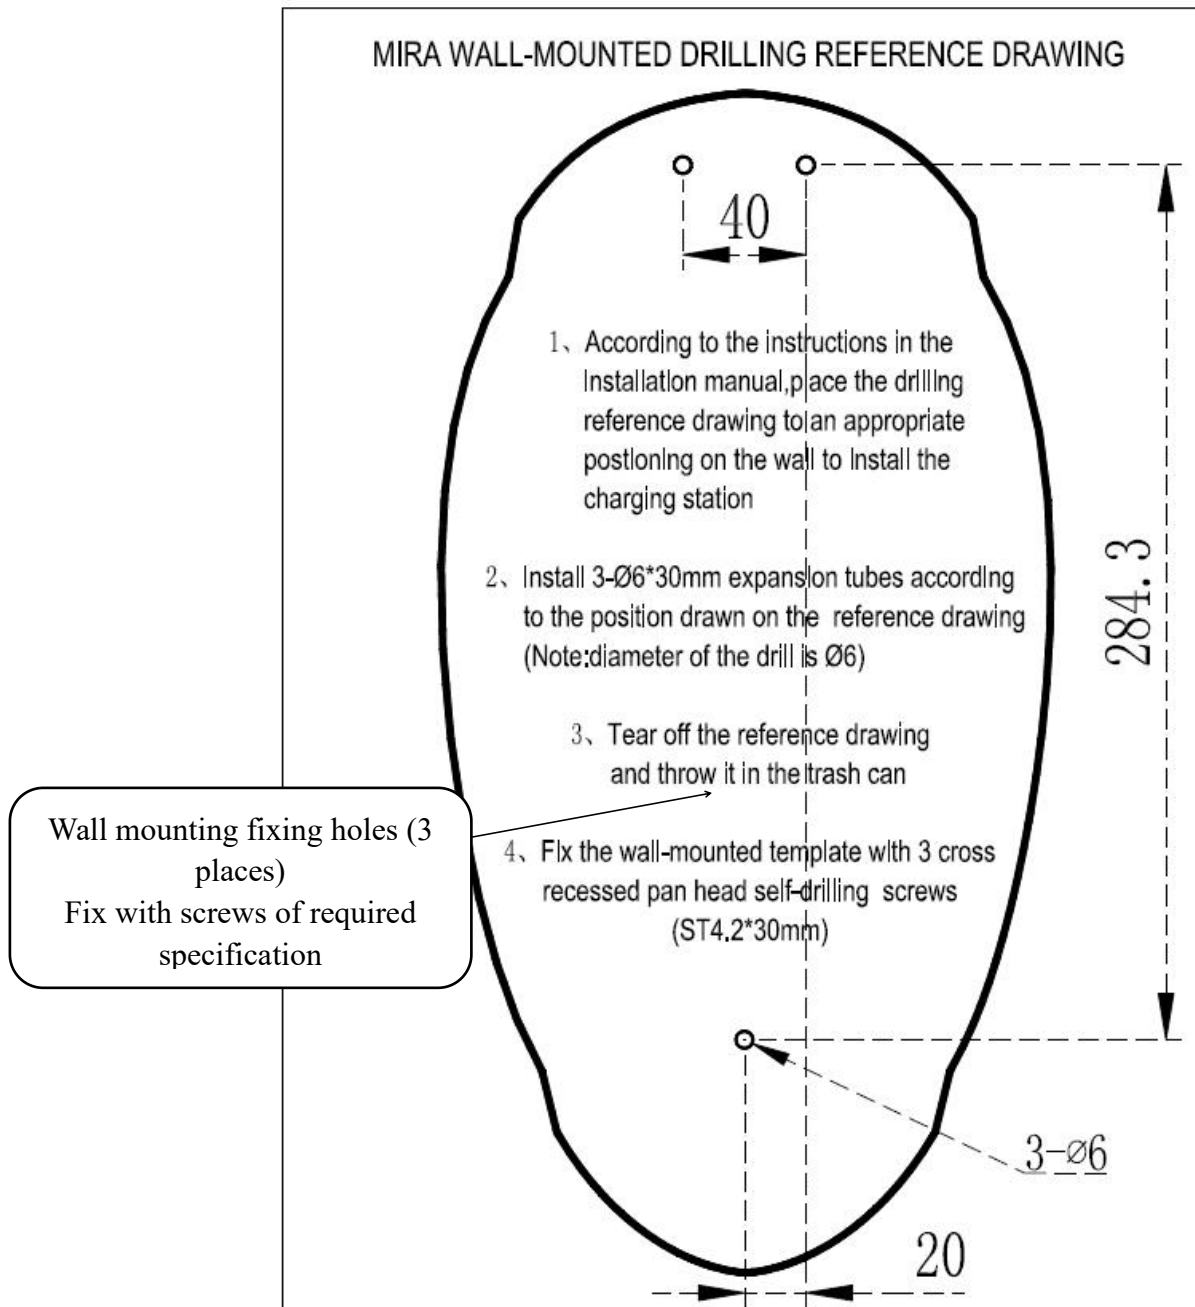

Figure 4.1-1 Wall-mounted hole location (unit: mm)
Step 1: According to the hole location map of the wall hanging installation orientation paper randomly distributed, the diameter of the drill bit for drilling (3pcs) on the wall  $\Phi$  6mm, drilling depth 30mm, and then pre-bury 3pcs  $\Phi$ 6\*30mm expansion pipes, the location of wall hanging holes is shown in Fig. 4.1-1.